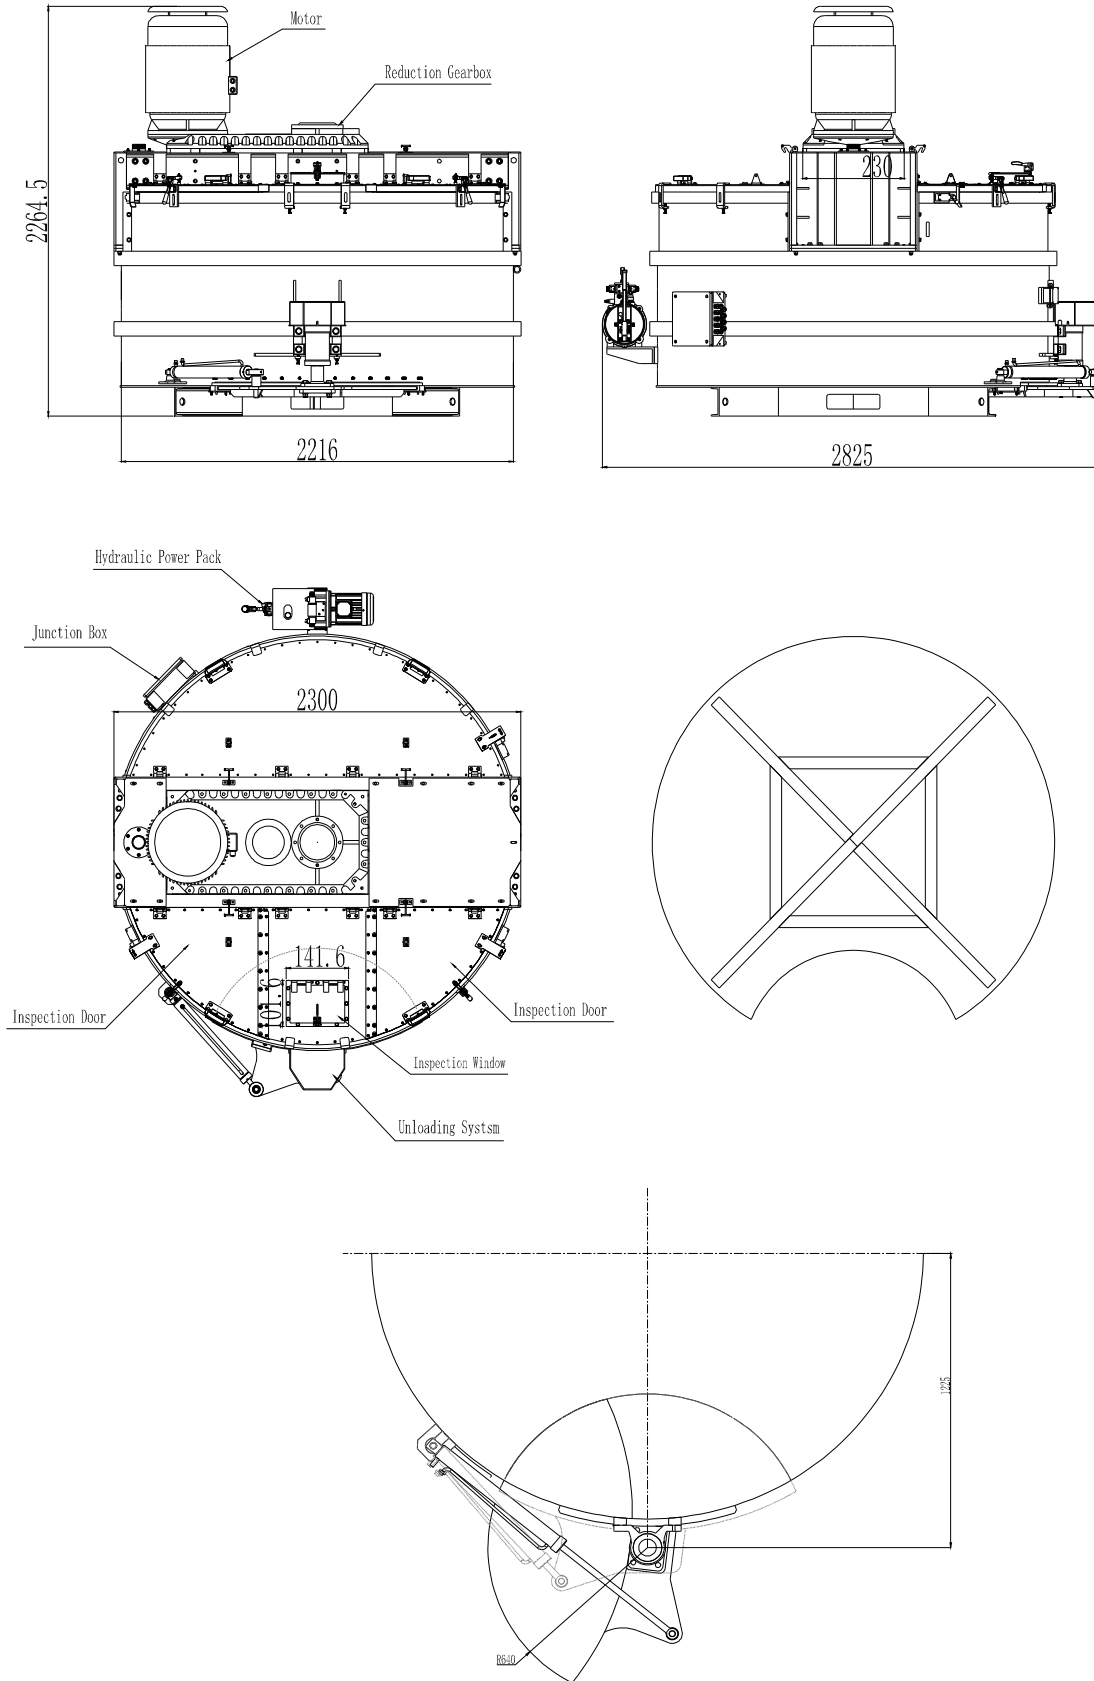

Fig 1
c) For overall dimensions see Fig1 at page 7.